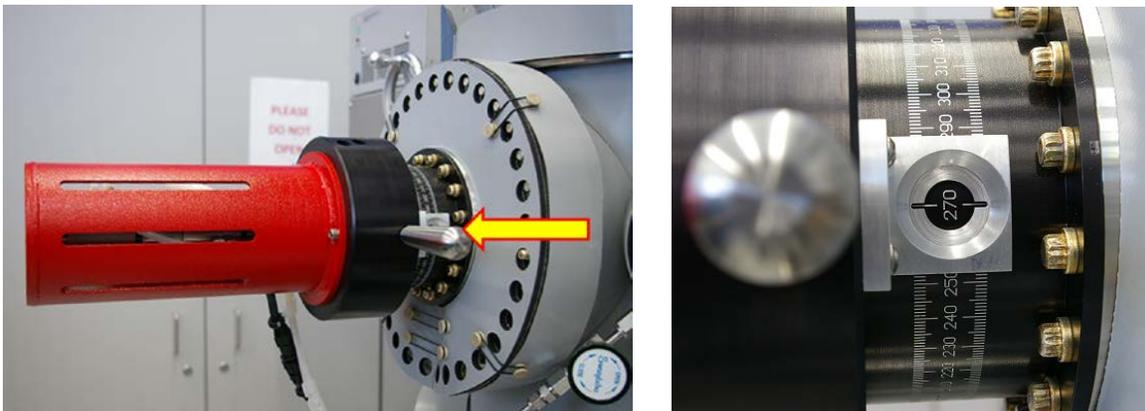
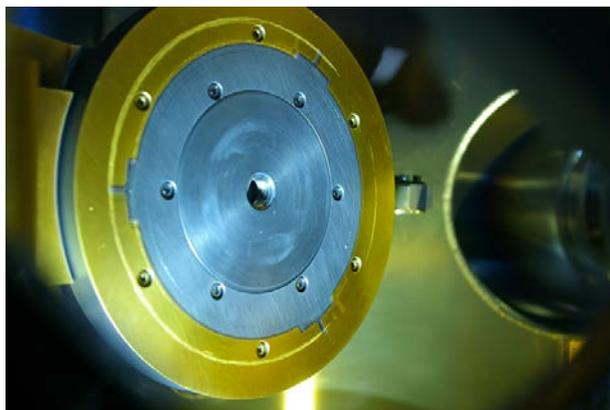

Fig. 10. Rotating sample table (outer part) with handles and scale. For sample transfer, the angle should be set to 270° .
Fig. 11. Sample table (inner part) inside the MC; the tapped hole (center) is where the sample holder pin screws in.
- 8) Make sure the table in the MC is facing to the right (270° on the scale, Fig. 10) and move the arm with the sample holder inside the MC. The threaded pin on the holder should go inside the threaded hole in a table (Fig. 11).